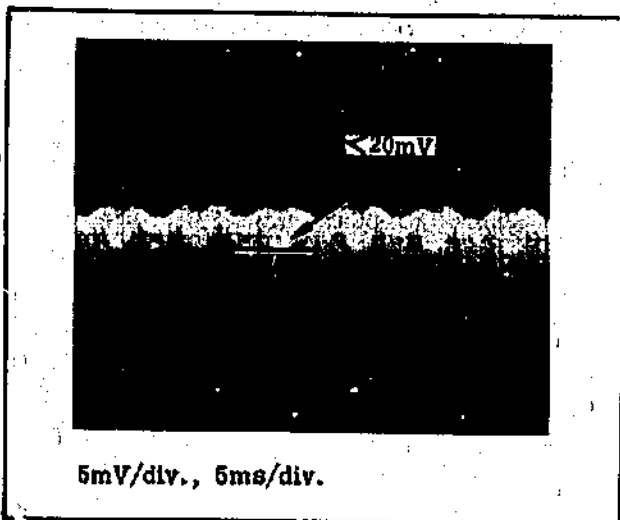

Figure 5-11. Multiplier Zero Leakage at A2TP4 and A2TP8.
- d. Connect oscilloscope to A2TP4 and adjust waveform on oscilloscope for minimum (less than 20mV -- 4 divisions peak to peak) as shown in Figure 5-11 with A2R11 (Zero Adj -- C side).